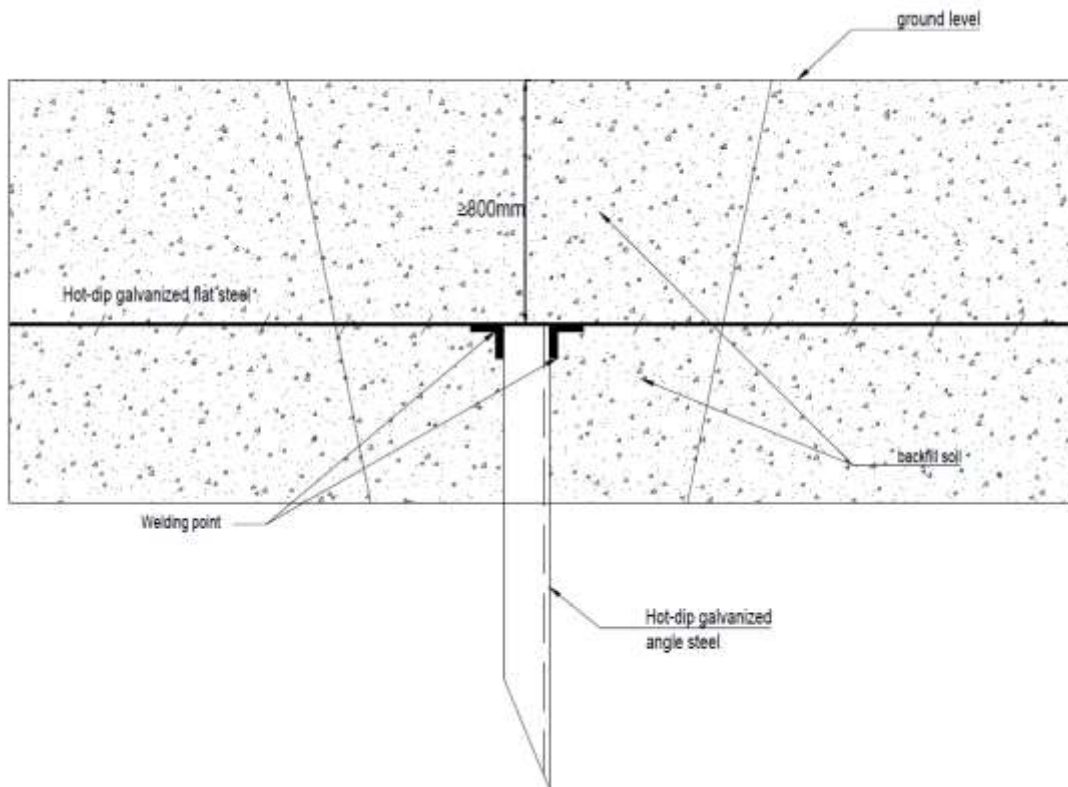

Figure 5.15 Grounding body installation
1) The vertical grounding body of hot-dip galvanized angle steel with a length of 2.5 meters is vertically buried underground, and the burial depth of the vertical grounding body should not be less than 800mm from the top of the ground plane, as shown in Figure 5.15.